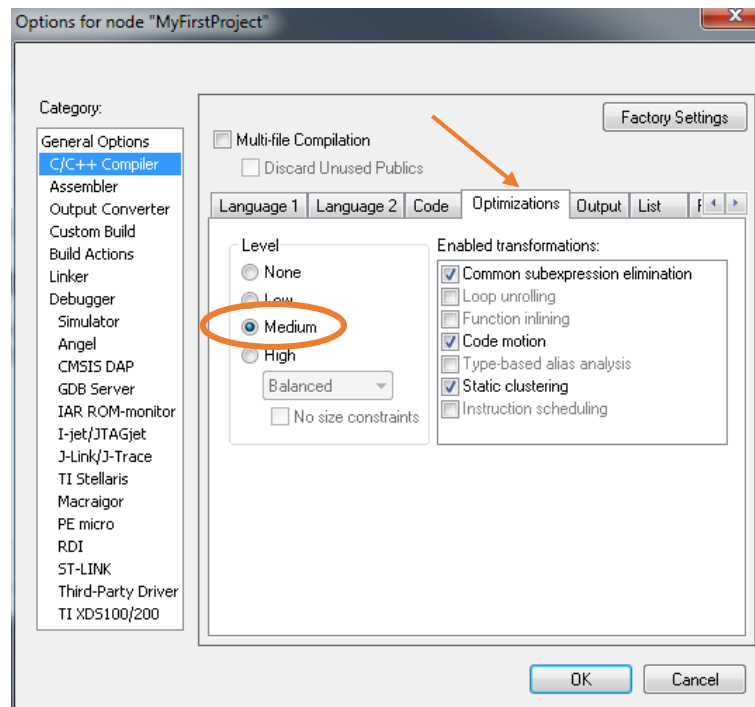

Figure 3.10: Enable optimization, level “Medium”
- Set the level of optimization for compiler, Fig. 3.10. The default is “Low”, but we can safely select “Medium” to speed-up the execution of the program. Selecting the option “High” enables the compiler to actually modify the user program in order to speed-up the execution, and is to be used with caution.